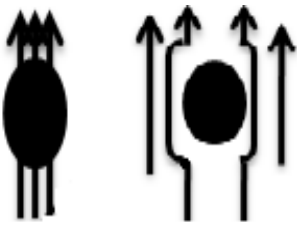

Figure 3
8) **Meissner effect (Diamagnetic property):** The complete expulsion or rejection of magnetic field lines is observed when $T < T_c$ and $H < H_c$. This is known as Meissner effect which is shown in figure 3.